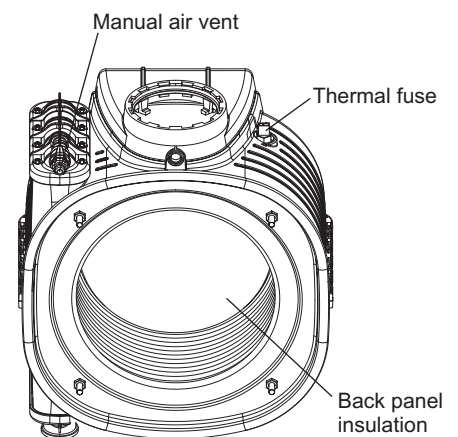

Fig. 7.4
Back panel insulation - Fig. 7.4
7.19 HEAT EXCHANGER THERMAL FUSE - Fig. 7.4